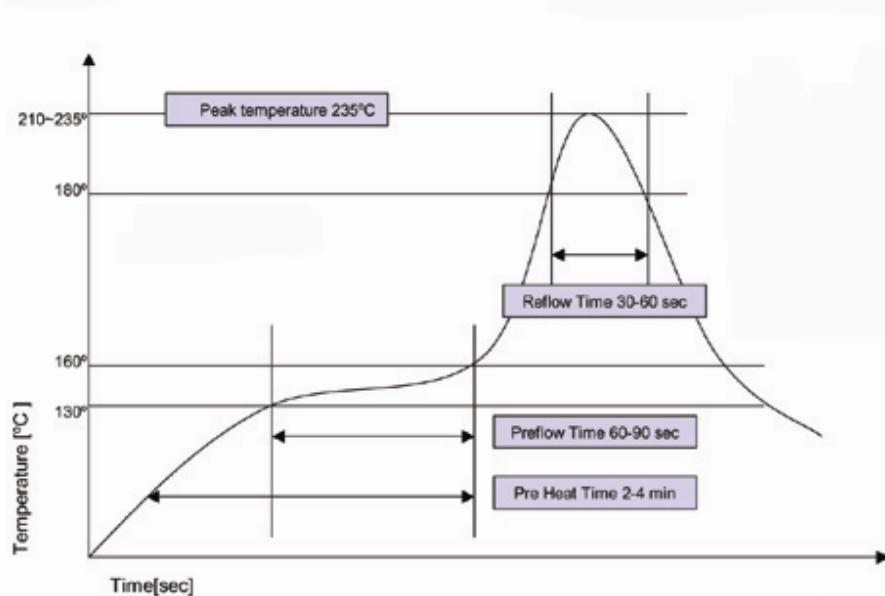

**Figure 3: Component Placement**
**Coupler Positioning:** The surface mount coupler can be placed manually or with automatic pick and place mechanisms. Couplers should be placed (see Figure 3 and 4) onto wet paste with common surface mount techniques and parameters. Pick and place systems must supply adequate vacuum to hold a 0.50-0.55 gram coupler.